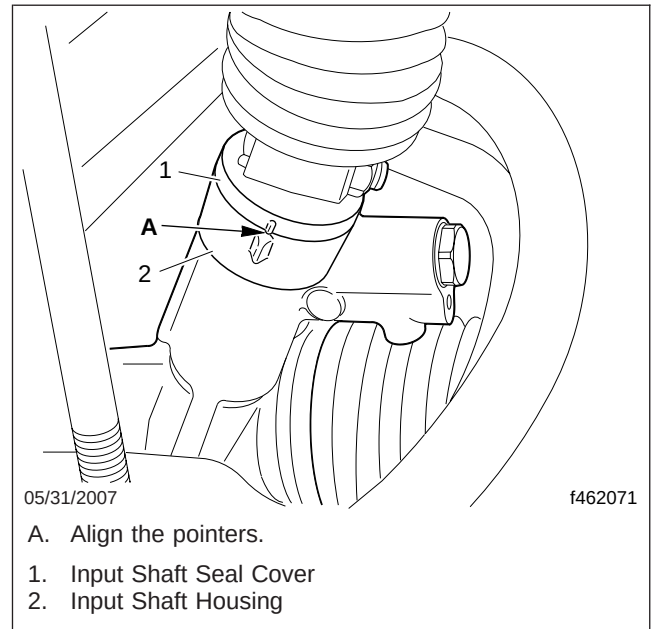

Fig. 1, Rack and Pinion Pointer Alignment
3. Center the rack travel and align the timing pointers on the input shaft seal cover and the input shaft housing. See Fig. 1.